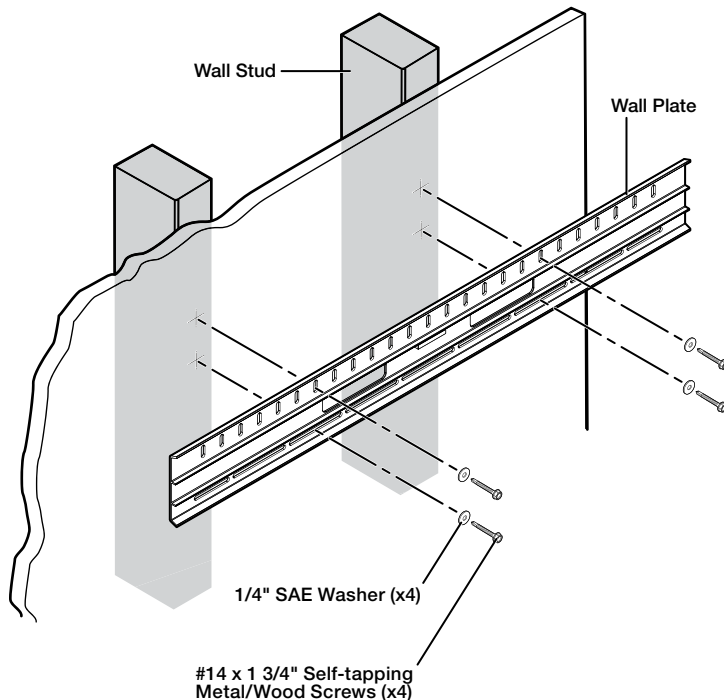

Figure 8. Attach the Wall Plate to Studs
5. Screw the wall plate to the wall studs using four #14 x 1 3/4" self-tapping wood or metal screws and four 1/4" SAE washers into the pilot holes (see figure 8).